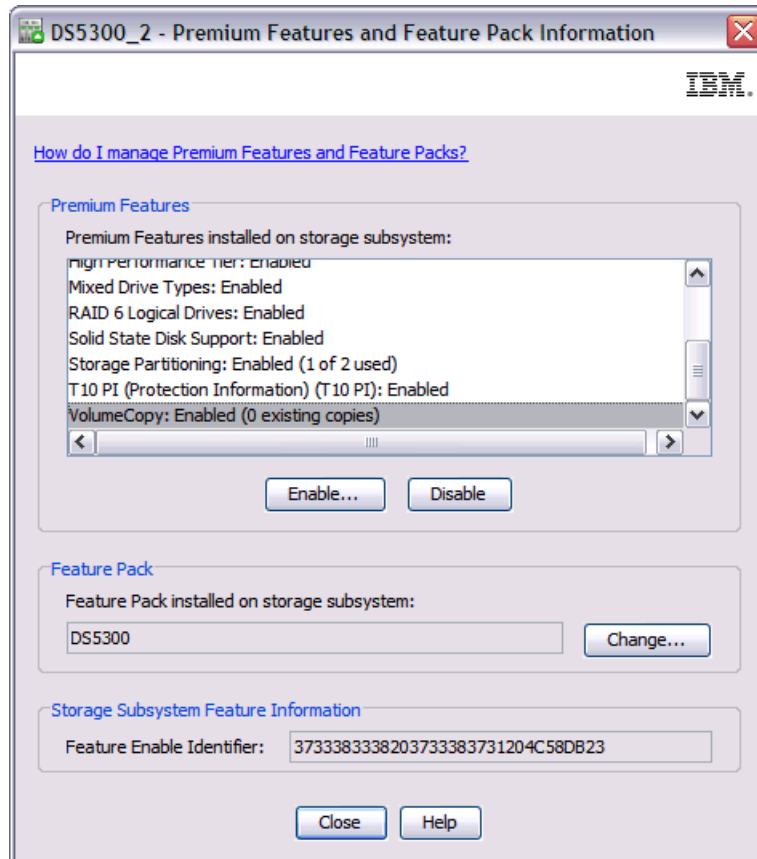

Figure 5-37 Feature enabled
10. New feature has been enabled as shown in Figure 5-37 on page 322